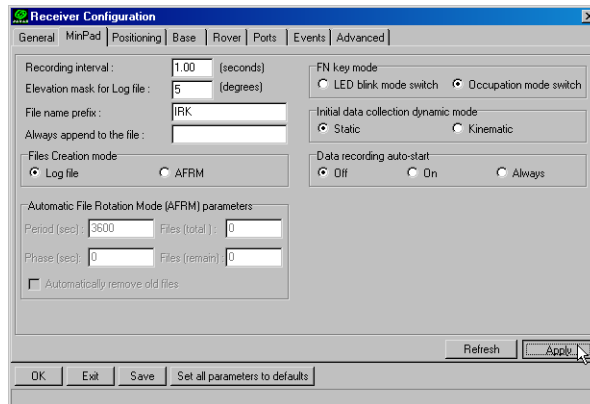

Figure 3-8. Rover MinPad Configuration
2. Using PCView, click **Configuration->Receiver->MinPad**, and configure the Rover with the following parameters, then click **Apply** (Figure 3-8):
2. Using PCView, click **Configuration->Receiver->MinPad**, and configure the Rover with the following parameters, then click **Apply** (Figure 3-8 on page 3-10):